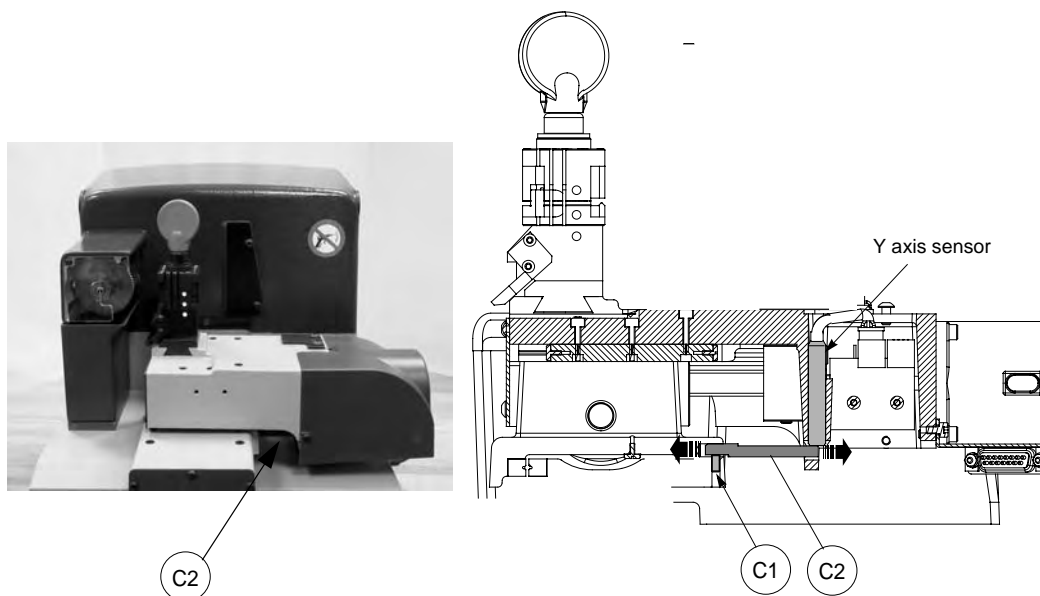

Fig. 31
- use the provided allen key to loosen the (C1) grub screw; manually rotate the (C2) rod (fig. 31) in both directions up until the changeover point from OFF to ON is found.
- tighten the (C1) grub screw (fig. 31) to secure the rod.